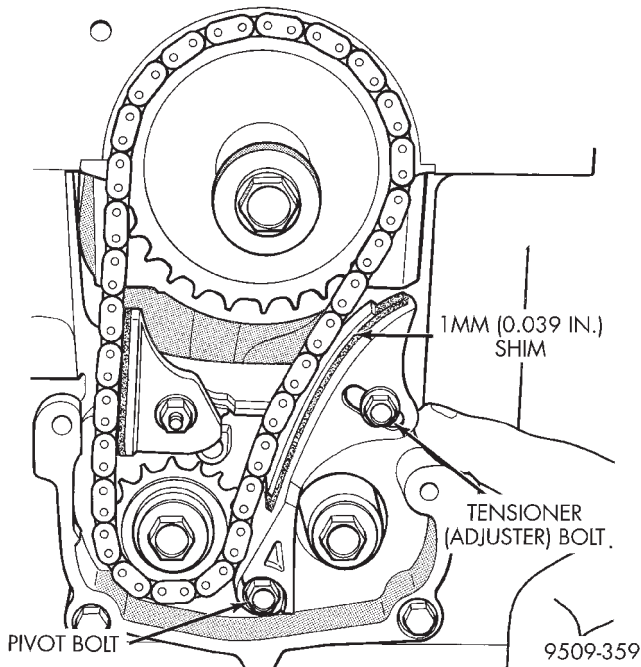

Fig. 47 Chain Tension Adjustment
- (1) Install chain tensioner loosely assembled.
- (2) Position guide on double ended stud making sure tab on the guide fits into slot on the gear cover. Install and tighten nut/washer assembly to 12 N-m (105 in. lbs.).
- (3) Place a shim 1 mm (0.039 in.) thick x 70 mm (2.75 in.) long or between tensioner and chain. Push tensioner and shim up against the chain. **Apply firm pressure (5.5 to 6.6 lbs.) directly behind the adjustment slot to take up all slack.** Chain must have shoe radius contact as shown in (Fig. 47).
- (4) With the load applied, tighten top tensioner bolt first, then bottom pivot bolt. Tighten bolts to 12 N-m (105 in. lbs.). Remove shim.
- (5) Install carrier covers and tighten screws to 12 N-m (105 in. lbs.).
- (6) Install oil pan and fill engine crankcase with proper oil to correct level.